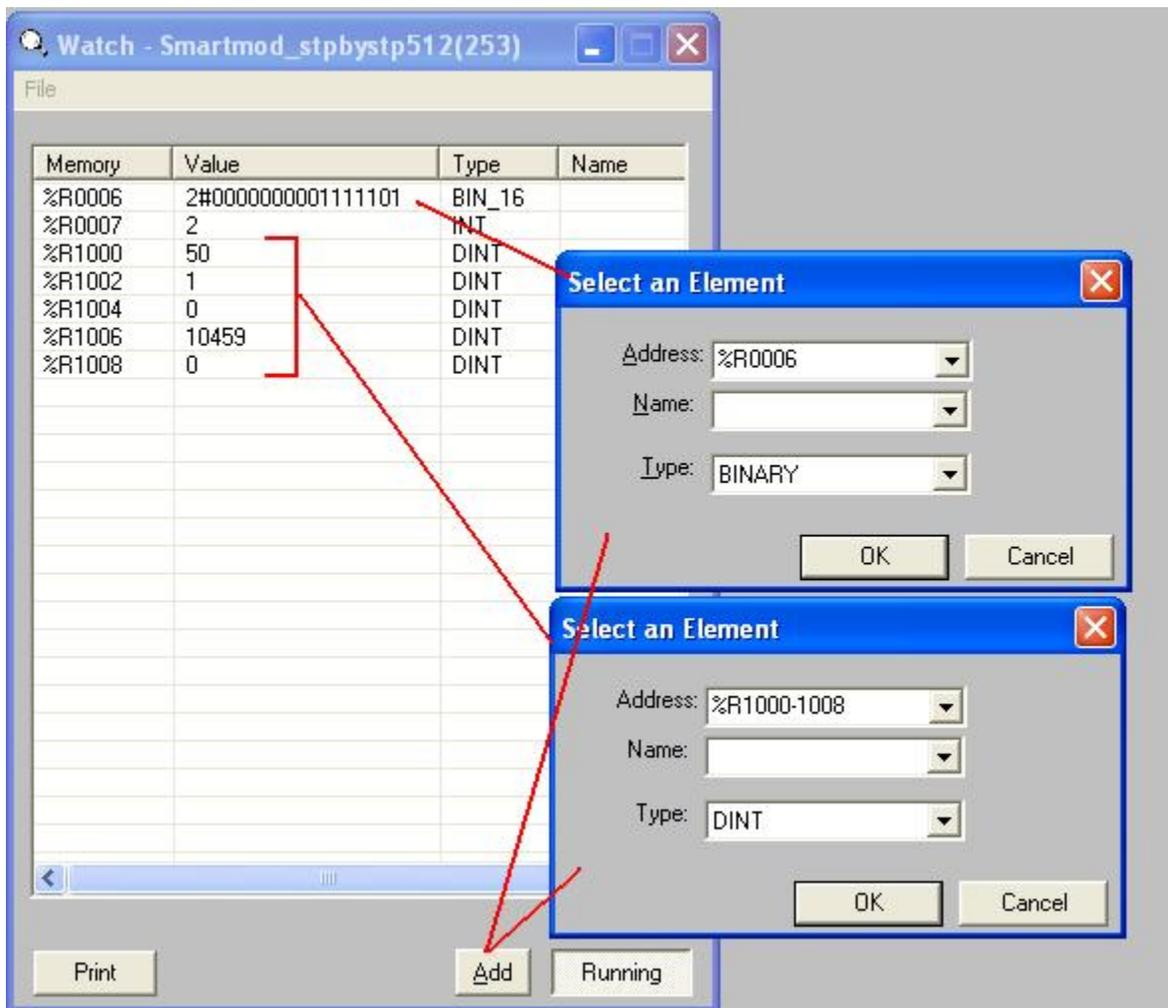

Fig. 14
8. All of the appropriate registers can be added and their values viewed live in Cscape when the XLt is connected by using the **Controller/Datawatch** window (Fig. 14).